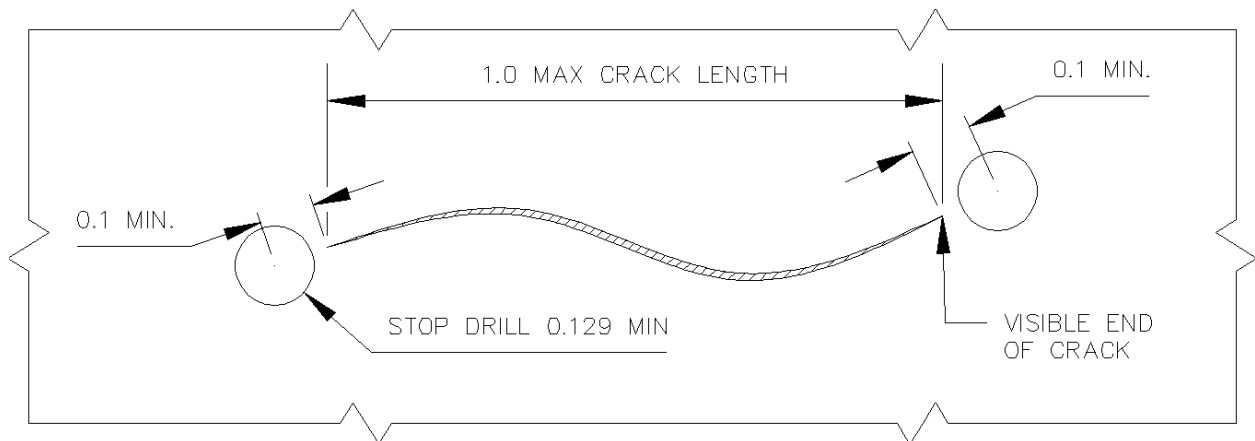

Figure 9 – Crack Stop Drilling
3. Repair a crack by stop drilling at least 0.1" past the visible end of the crack using at least a #30 (0.129") drill as shown in Figure 9.